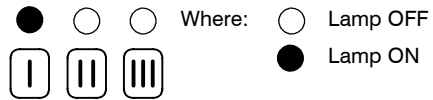

Fig. 7.7
- 6 The lamps 9 should give the indication as in Fig. 7.7. If not, press the reset button 6 repeatedly to obtain it.